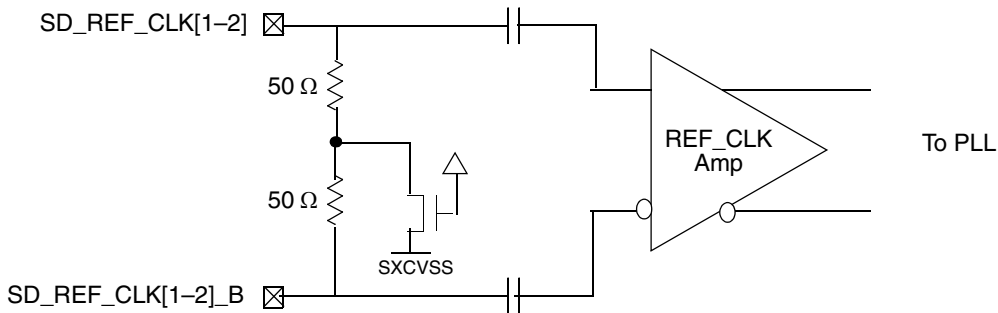

Figure 37. Receiver of SerDes Reference Clocks
The SerDes reference clock inputs are applied to an internal PLL whose output creates the clock used by the corresponding SerDes lanes. The SerDes reference clock inputs are SD_REF_CLK1/SD_REF_CLK1_B or SD_REF_CLK2/SD_REF_CLK2_B. Figure 37 shows a receiver reference diagram of the SerDes reference clocks.
- The SD_REF_CLK[1-2] and SD_REF_CLK[1-2]_B are internally AC-coupled differential inputs as shown in Figure 37. Each differential clock input (SD_REF_CLK[1-2] or SD_REF_CLK[1-2]_B) has on-chip 50-Ω termination to XCOREVSS followed by on-chip AC-coupling.